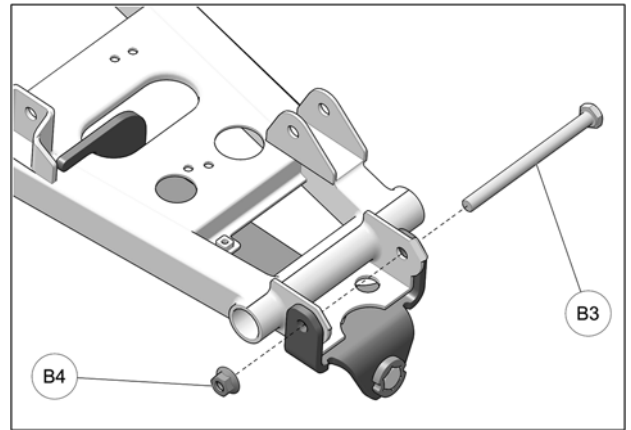

Fig. 8
- Insert the new M10x140mm bolt (B3) through anchor bracket, suspension arm and wheel knuckle. Secure assembly with the provided M10 nut (B4). Torque nut to 50 N•m [37 lb•ft]. See Fig. 8